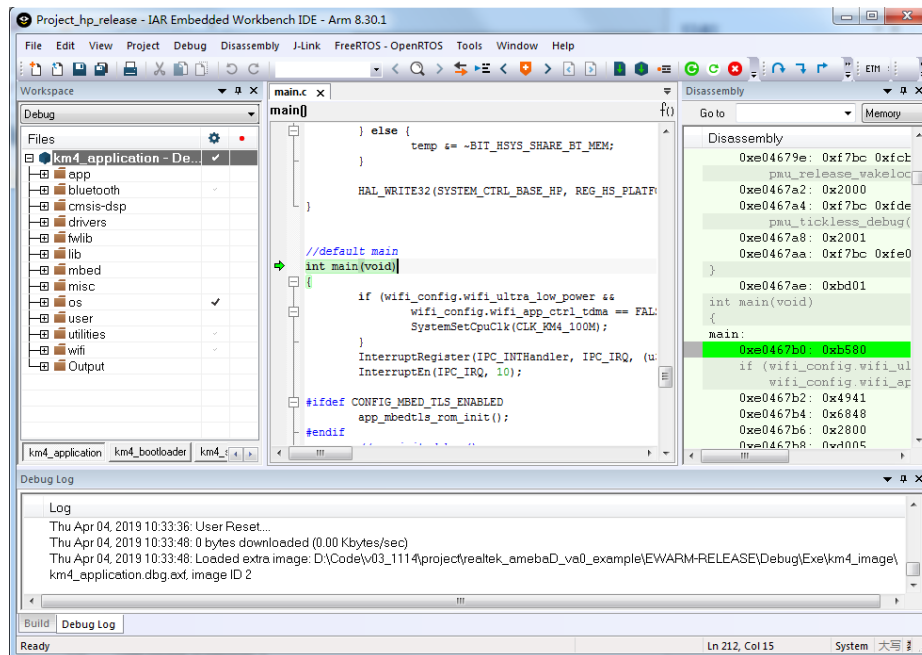

Fig 1-15 Running to main() when debug
- (1) Set the target project as active project and verify the debugger configurations as step (1) and (2).
- (2) Click **Project > Download and Debug** or **Project > Debug without Downloading**.
- (3) When starting IAR C-SPY to debug, it will firstly reset the target CPU and run to the main function, as Fig 1-15 shows.